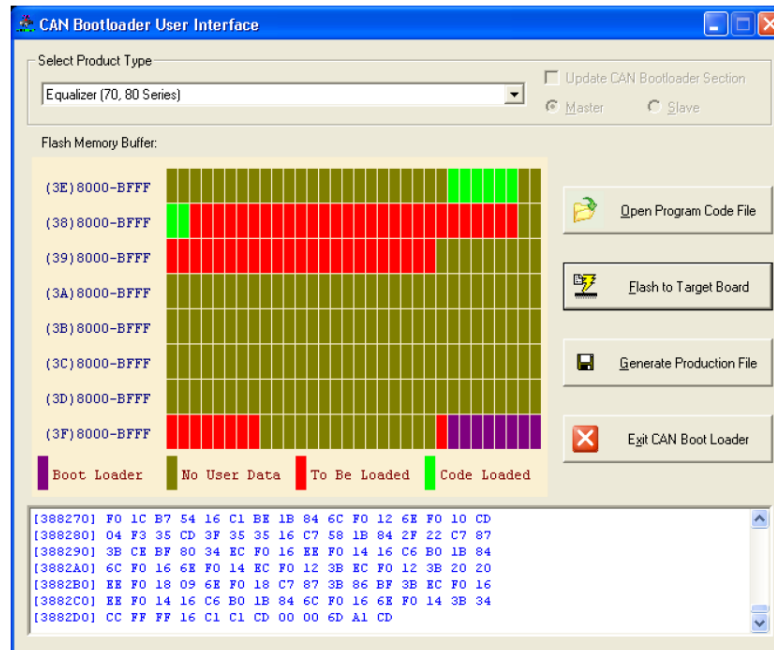

Figure 8: CAN Bootloader User Interface – Flashing in progress
9. Click “Flash to Target Board” button to start flashing new firmware to equalizer. Blocks flashed successfully will change from red to green. Refer to Figure 8.
11. Close CAN bootloader and switch to Equalizer Dashboard to verify heartbeat. Click “Diagnostic Messages ...” button on Equalizer Dashboard to bring up the Diagnostic window (Figure 8). Click “Request Software ID” button to verify correct software ID (1EQ8048* as of today).